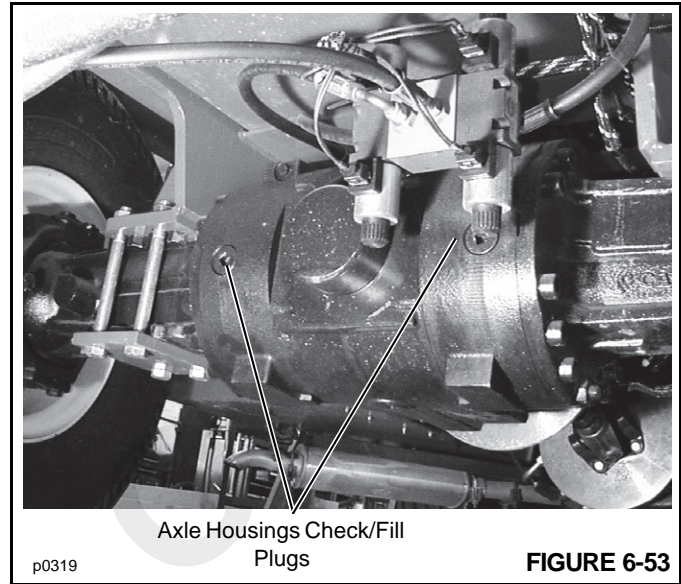

FIGURE 6-53
1. Clean around the two check/fill plugs in the axle brake housings (Figure 6-53). Remove both plugs.